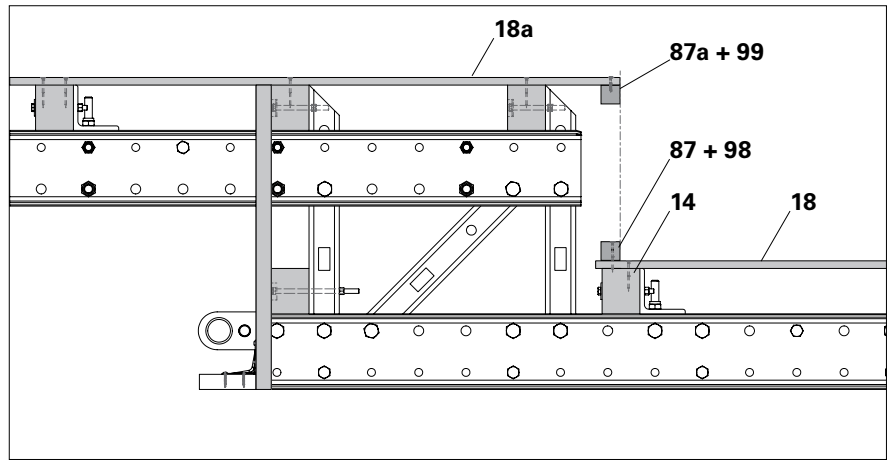

Fig. C3.06
1. Mount the enclosure panel (18) on the Climbing Rail so that the top Enclosure Beam (14) is completely covered.
2. Pre-drill timber 50 x 50 (87) with  $\varnothing$  7 mm and secure with screws 6 x 80 (98) to the Enclosure Beam.
3. Align the enclosure panel (18a) on the Enclosure Post so it is flush with the timber (87) on the Enclosure Beam.
4. Secure timber 50 x 50 (87a) to pre-drilled enclosure panel (18a) with screws 6 x 60 (99). (Fig. C3.06)